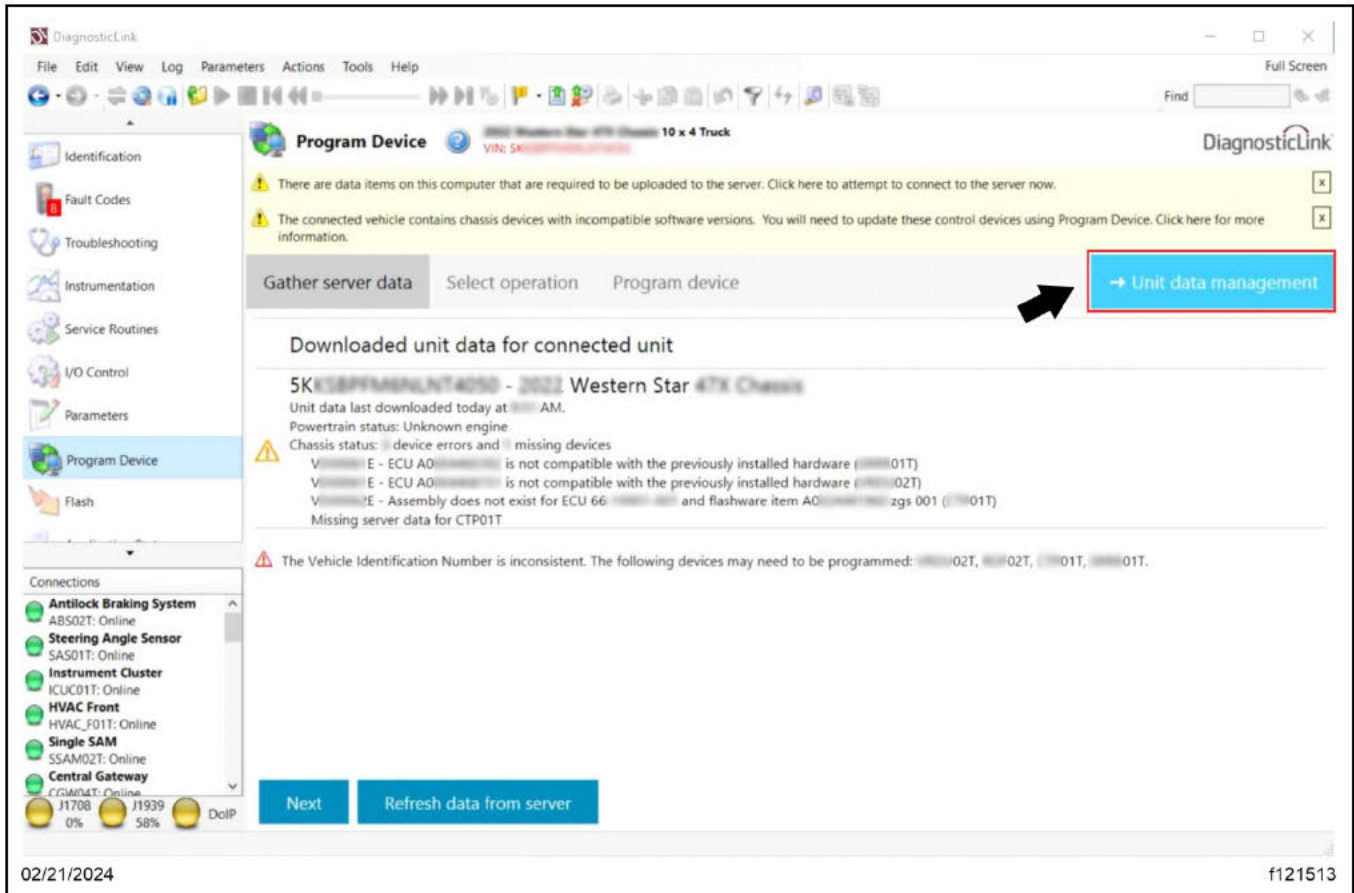

Fig. 8, Selecting Unit Data Management
11. Select 'Unit data management' in the upper-right corner. See Fig. 8.